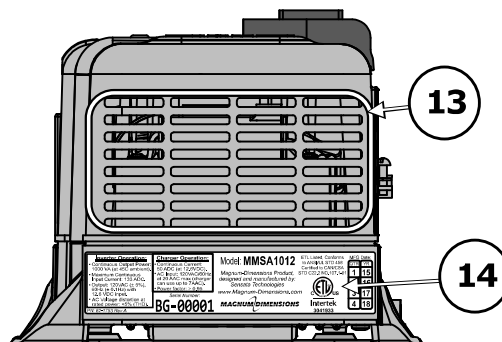
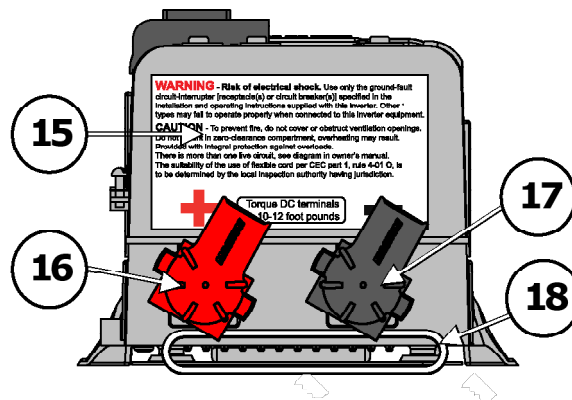
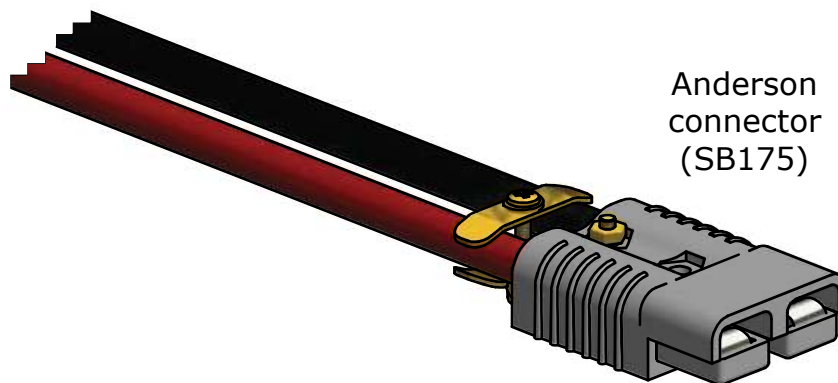

Figure 1-5, Back Side Features
Figure 1-6, Front Side Features
Figure 1-7, MMSA1012 Inverter’s Anderson Connector
- 16 **Positive DC Terminal** – the inverter’s connection to the positive terminal on the battery bank. The MMSA1012 comes with one end of a red #2 AWG DC cable already connected to the inverter’s positive terminal (Figure 1-6), and the other end with an Anderson connector (SB175) attached (Figure 1-7).
- 17 **Negative DC Terminal** – the inverter’s connection to the negative terminal on the battery bank. The MMSA1012 comes with one end of a black #2 AWG DC cable already connected to the inverter’s negative terminal (Figure 1-6), and the other end with an Anderson connector (SB175) attached (Figure 1-7).
Ventilated – In order for the inverter to provide full output power and avoid over-temperature fault conditions, do not cover or block the inverter’s ventilation openings and ensure there is enough space to allow heated air inside the inverter to escape. Provide as much clearance around the inverter’s intake and exhaust ventilation openings as possible (Figure 1-5, Item 13 and Figure 1-6, Item 18). At the minimum, allow an airspace clearance of 3” (7.5 cm) on all sides to provide adequate ventilation.